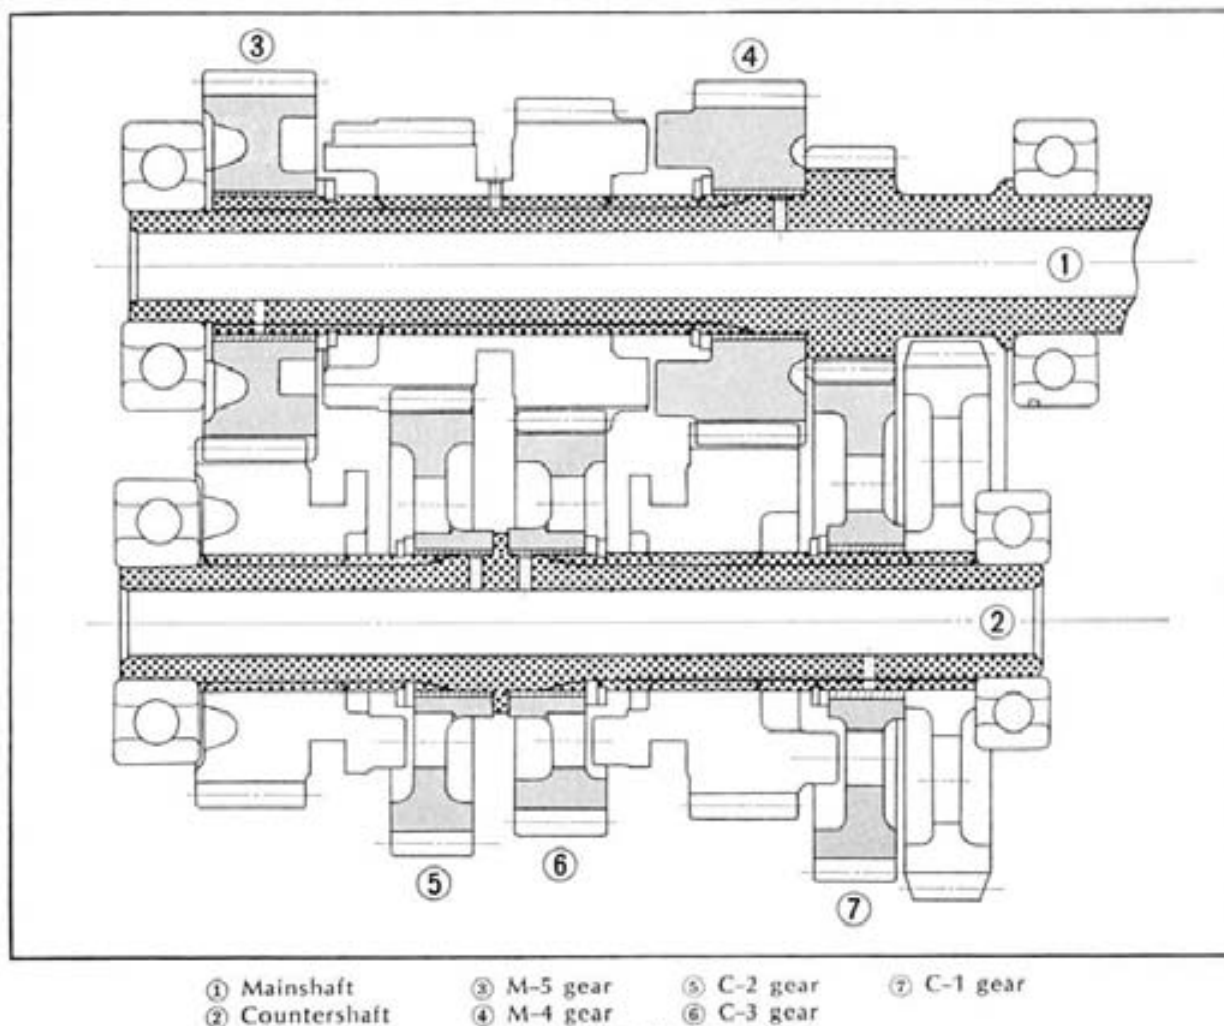

Fig. 5-10
3. Gear to shaft clearance (Fig. 5-10)